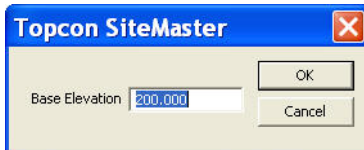

Figure 14-31. Set Elevation From Text
- Click on “Set a Base Elevation” to display the *Topcon MAGNET Office* dialog box (Figure 14-31).